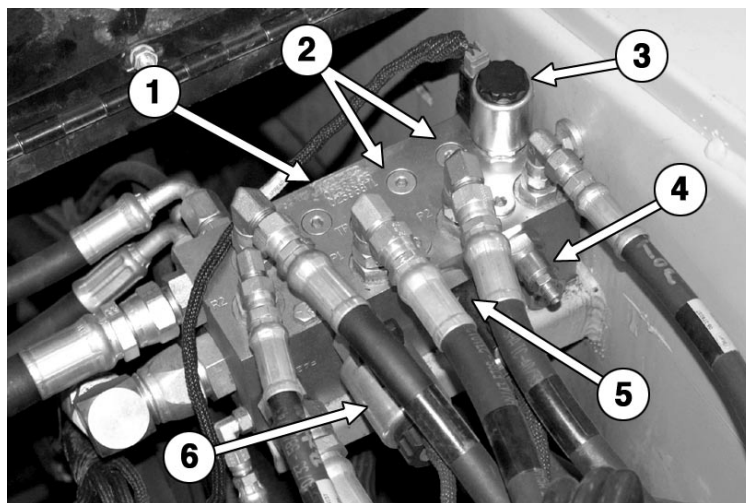

Figure 5
The load sense checks (2) are located on the top of the auger, conveyor, spreadroll manifold (See figure 5).
* Bad or contaminated load sense check valves can cause erratic stand-by pressures. (see figure 5 to identify location of load check valves).